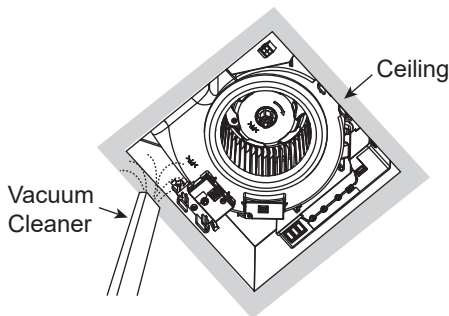

Fig. 19
4. Remove dust and dirt from fan body using a vacuum cleaner. See Fig. 19